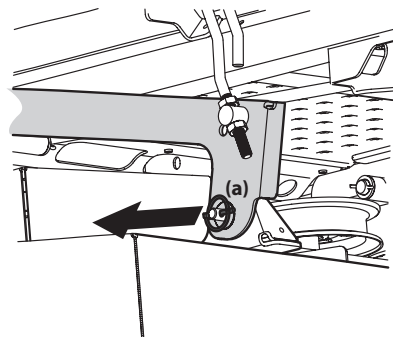

Figure 4-19
7. Locate the LH and RH deck release pins (a) on each side of the deck. Pull the release pins outward and release the deck from the LH and RH deck lift arms. See Figure 4-19.
5. Pull the deck release pins outward and maneuver the deck as necessary to align the holes in the deck lift arms with the pins. Refer to Figure 4-19.